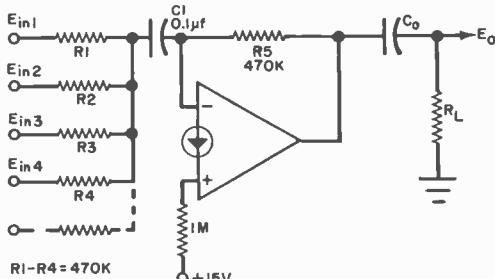

Fig. 4. Mixing amplifier using CDA.
**Mixing Amplifier.** A very useful circuit is the mixing amplifier shown in Fig. 4. It is a variation of the basic inverter. This circuit can mix virtually any number of inputs (4 is not the limit) into a common signal for tape recording, public address systems, etc. The gain of each channel is unity, and  $R_1-R_4$  should be equal values for matched input sensitivities. Coupling capacitors are chosen as in the inverter.